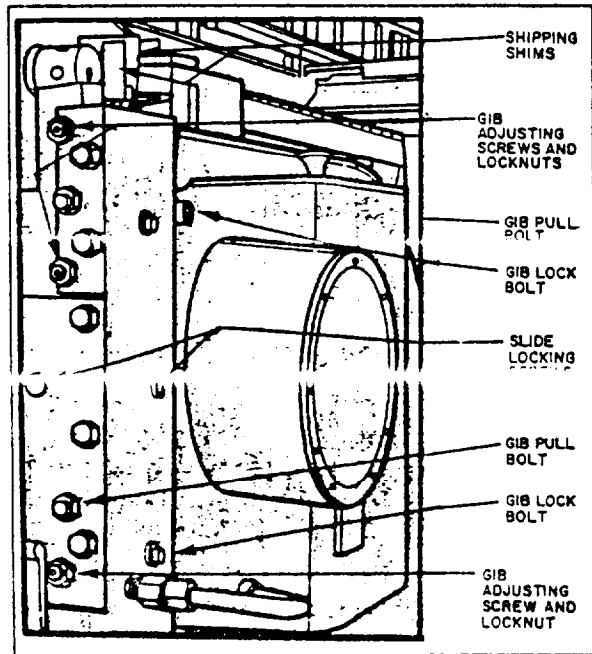

Figure 6. Shipping Shims and Locking Bolts
On each side of the Shear on the slide guides, there are two (2) hex head bolts with washers. These Lock the gib in position. These bolts should be loosened before adjusting gibs. (See Figure 6)